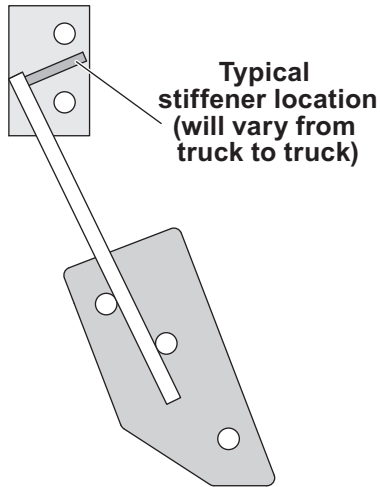

Figure 6
- e. Tack weld the hanger. Stiffen, as necessary, by tacking on gussets fabricated from any remaining stock (see Figure 6).